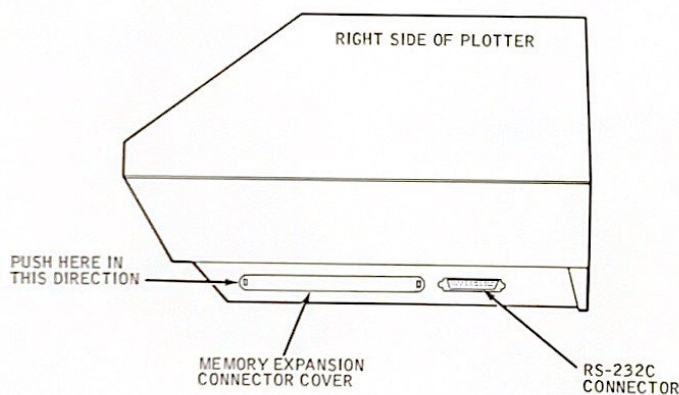

Figure 1-12. Memory Expansion Connector
2. At the plotter, remove the plastic memory expansion connector cover by pushing on the edge of the cover (Figure 1-12).
3. Lower the bottom half of the end bell assembly, exposing the area of the memory expansion cover. See Figure 1-12 on page 1-28.